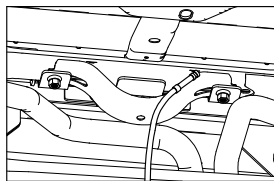

Figure G1: View under bed looking from floor to area above axle.
3. **Replace the vent tube.** Locate the axle vent tube that was disconnected from the frame at the beginning of the install. Relocate the vent by clipping the end to the frame cross member as shown, see Figure G1.